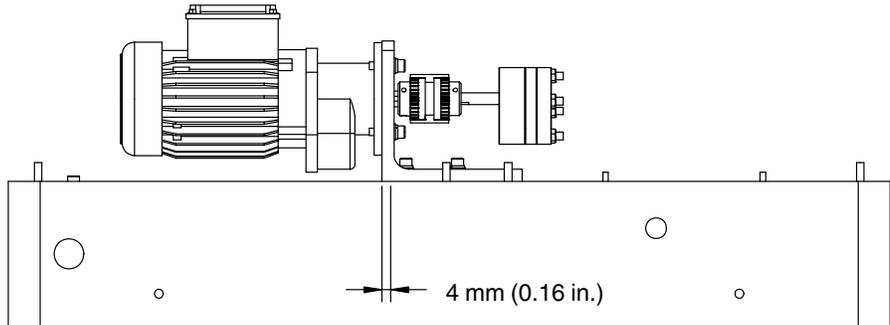

Figure 5-8 Moving the motor assembly back 4 mm (0.16 in.)
15. Ensure that the coupling sleeve cannot move, then slide the motor assembly back 4 mm (0.16 in.), as indicated in Figure 5-8.